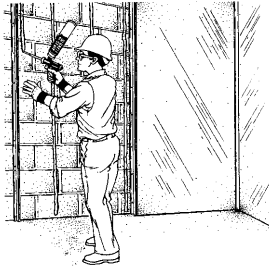

Figure 7
4. Apply beads of ENERBOND™ MH or SF Polyurethane Adhesive or appropriate construction-grade adhesive to the wall every 16" between PVC base strips (Figure 7).